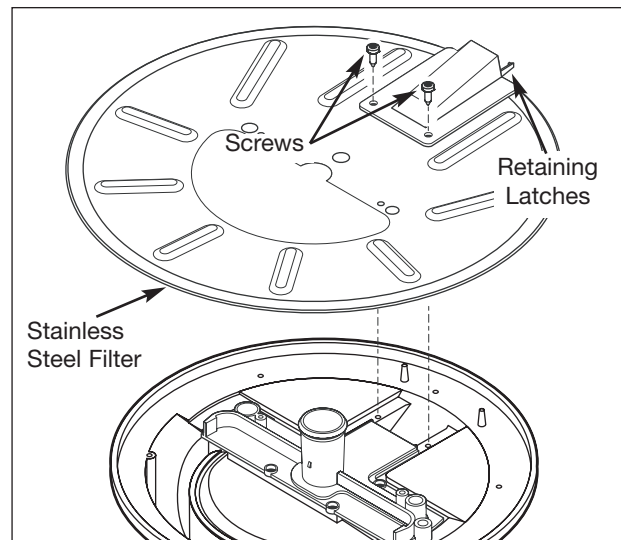

Figure 5-19. Stainless Steel Filter Removal
5. Using a #20 Torx bit, extract the two screws securing the stainless filter and delivery tube cover to the sump. (See Figure 5-19)